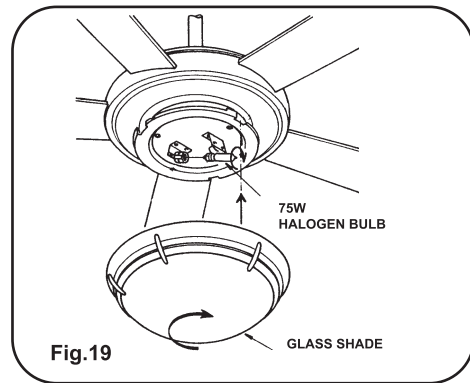

Fig.19
Step 1. Install 2°–75W halogen bulbs included. (Fig 19)
Step 2. Raise glass shade up against bottom of fan housing and secure it to fan by turning glass clockwise until snug. **DO NOT OVERTIGHTEN.** (Fig 19)